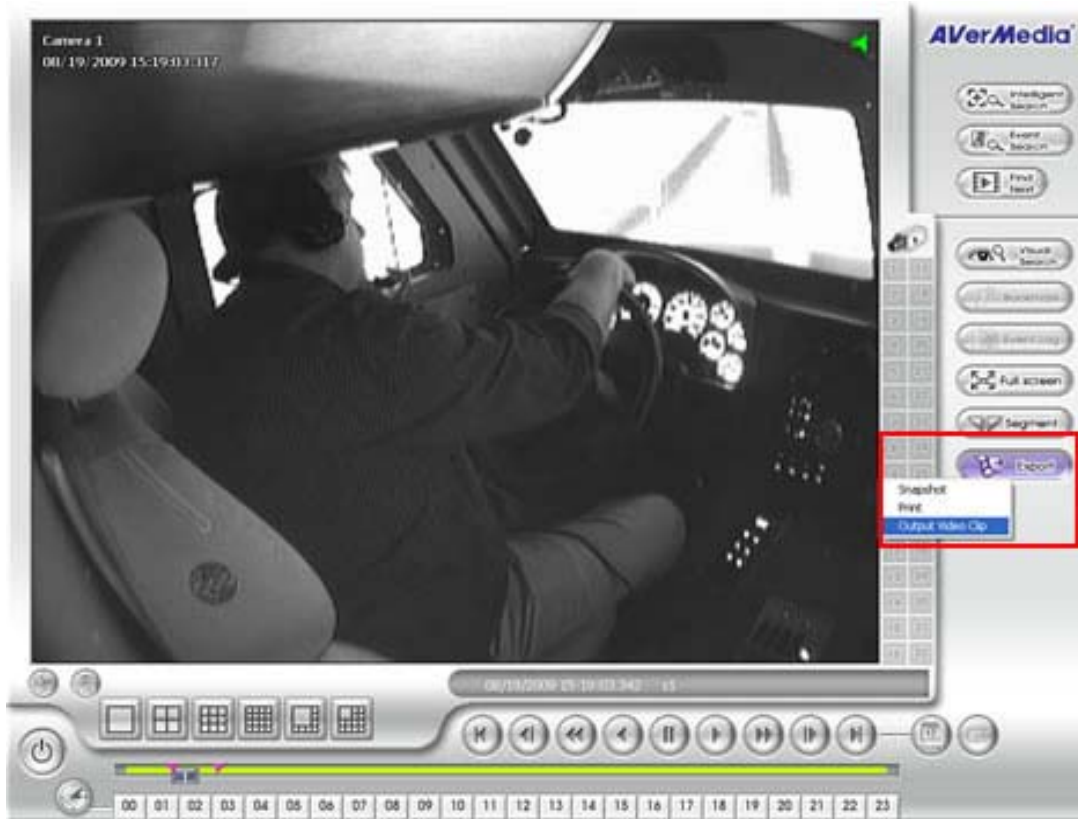

Figure 151. AAR – Export
4. Click the [EXPORT] button (Figure 151) to save the clip specified. A dropdown window will appear.